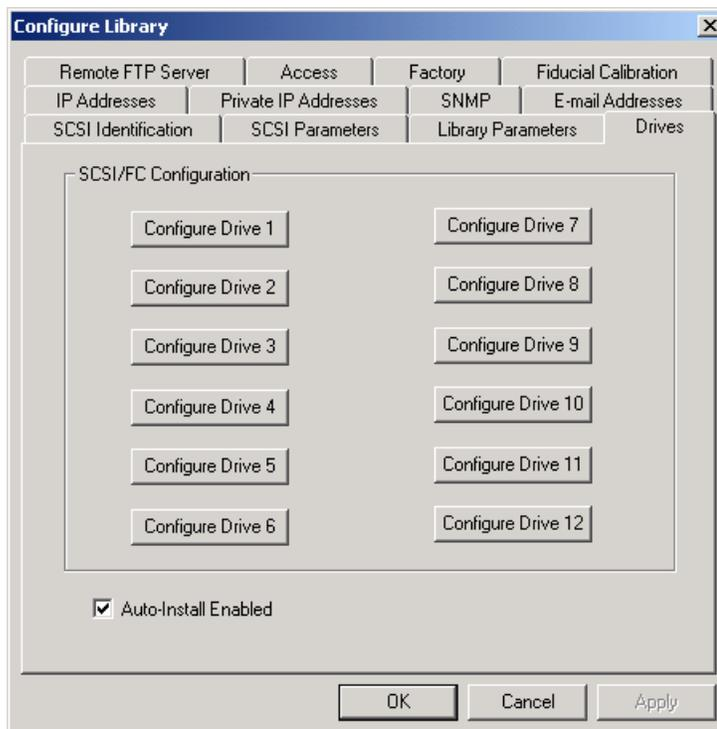

Figure 7-9: Configure Library Dialog Box—Drives Tab (SCSI)
1. Click the **Drives** tab to bring it to the front (Figure 7-9).
A Configure Drive *n* screen appears (Figure 7-9).